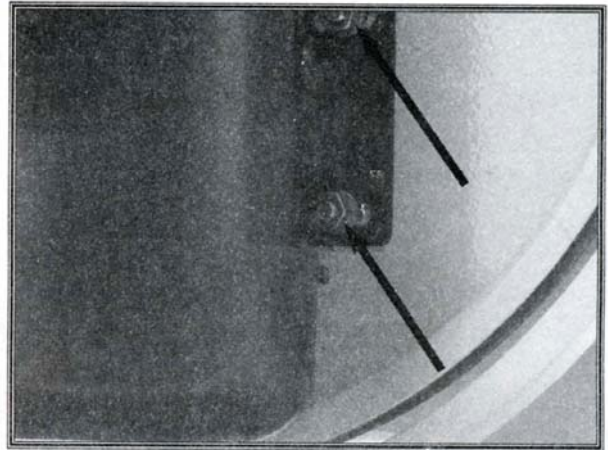

Figure 11. Motor mounting bolts (only 2 shown).
2. Loosen the four motor mounting bolts (Figure 11).